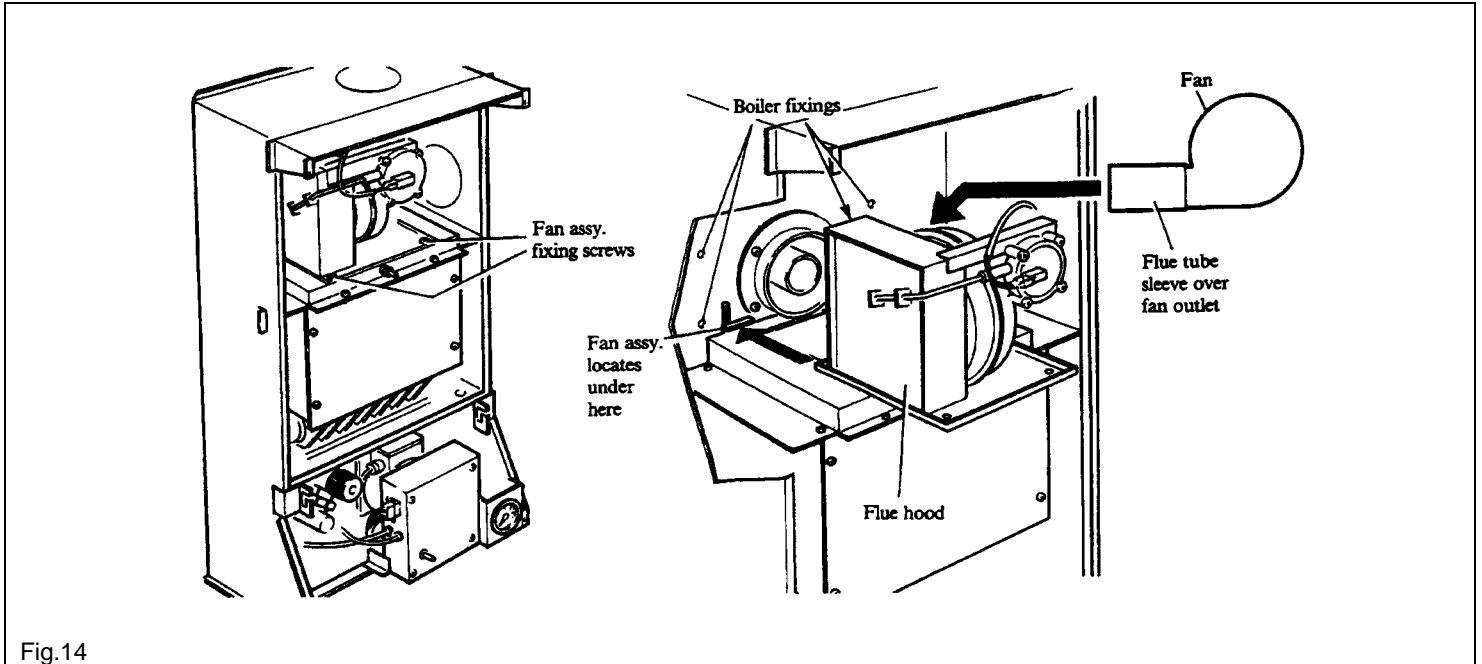

Fig.14
3. Remove the two screws securing the fan assembly to the flue hood. Withdraw the assembly, disconnecting the fan motor and pressure switch leads. See Fig. 14.
9. With the fan assembly resting on the flue hood push it towards the rear of the boiler, locate the flue tube sleeve on the fan outlet into the inner tube of the flue/terminal assembly and push the fan assembly fully home until the base is located under the returns at the rear of the flue hood, see Fig. 14.